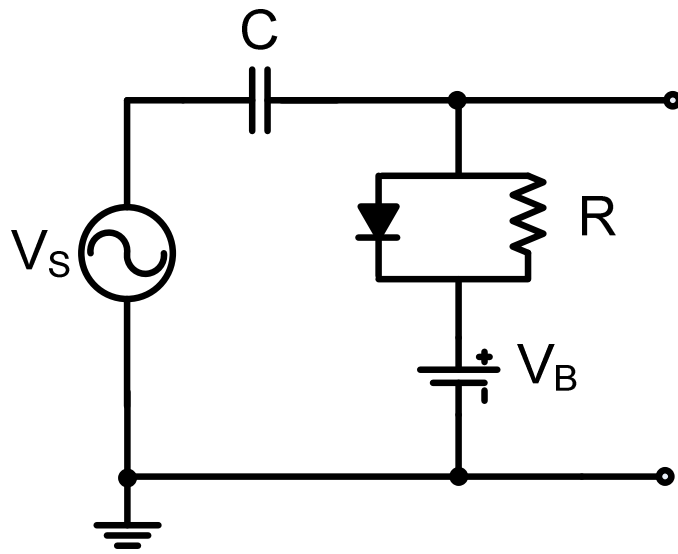

Fig. 5
The clamping circuit is a DC level restorer and changes the DC level of an arbitrary waveform, to a predetermined one. A simple clamping circuit is shown in Fig. 5.
C) For the circuit shown in Fig. 5, draw the output waveform if the input is a sinusoid. Do not neglect the diode turn on voltage (≈ 0.65 V). Select available values of R and C so that RC time constant is equal to 0.2 seconds approximately (e.g., for a capacitor of 10 μ F, the resistor value should be 20 k Ω).
a) Connect the circuit in Fig. 5. Let the input be a sinusoid of any amplitude at 1 kHz. While observing the output waveform (set the oscilloscope scope to be DC coupled), vary the amplitude of the input and observe the result. Next, leave the amplitude the same and add a DC offset in the input (There should be an "offset" control on the generator) and again observe the output. Make comments.